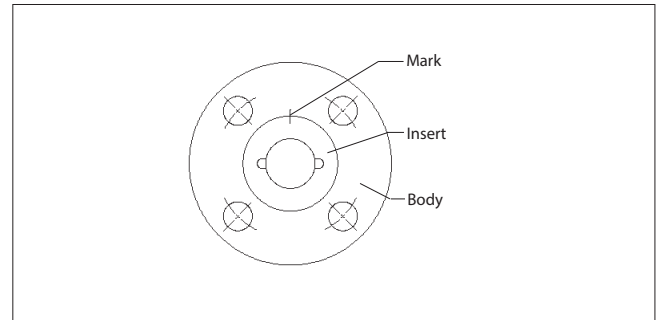

Figure 8. Marking the Insert Position
- E. Press the seals (7) and (24), or (8), up into the lower stem bore.
- F. From the outside, insert the upper stem seal (8).
- G. Press the stem (4) up into the stem bore until resistance is felt from the lower stem seal. Go on to Step 2.
- From inside the body cavity, first insert the secondary stem seal (7) and then the lower stem seal (24) (for fire-tested valves), or insert only the lower stem seal (8) (for non-fire-tested valves), up into the lower stem bore.
- From the outside insert the upper stem seal (8) into the upper stem bore.
- Insert the stem (4) into the body cavity and press it gently up into the stem bore until resistance is felt from the lower stem seal. Be careful not to scratch the seals. Go to Step 2.
- Holding the stem in place from inside the body, drop the compression ring (21) and the stem nut lock (15) into place. Screw on the stem nut (16) and torque to the value shown in (Table 1).
- If you have a torque wrench, skip this step and proceed to Step 5. Screw the insert (2) into the body until it is fully seated. Use a pencil or felt tip marker to mark the position as shown in (Figure 8). Counting the number of turns, remove the insert.